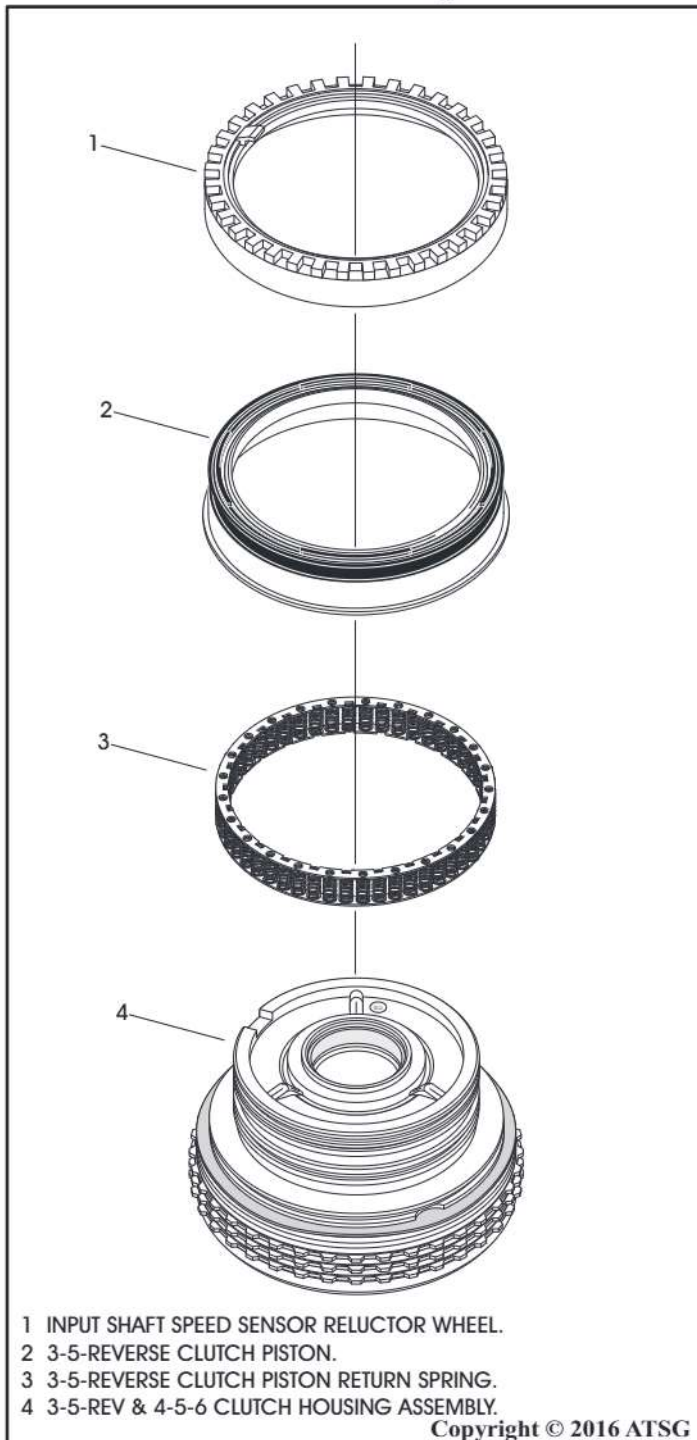

Figure 114
74. Install the 3-5-Rev clutch piston return spring, as shown in Figure 114.